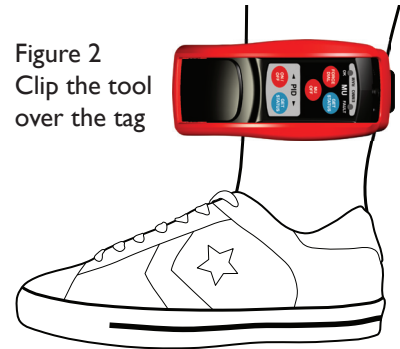

Figure 2
2. Clip the tool over the tag. **(Figure 2)**